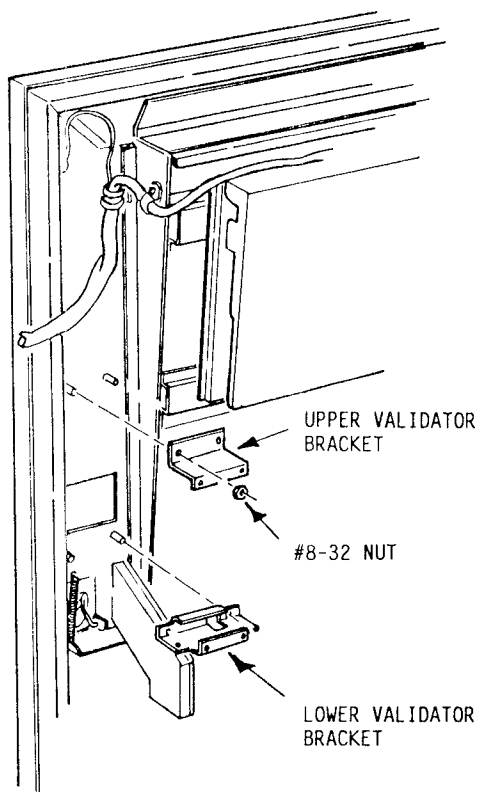

FIGURE 3a
A. INSTALLATION OF THE VALIDATOR BRACKETS (Figure 3A)